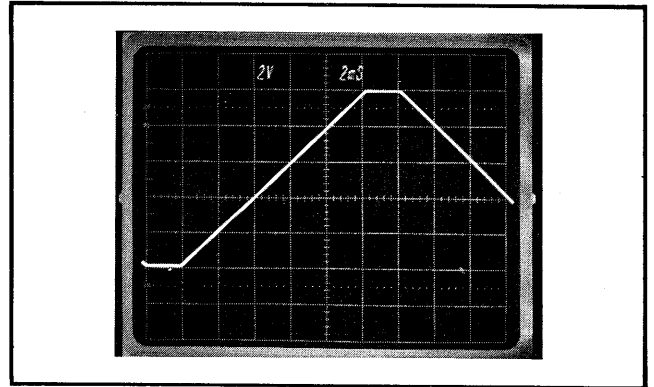

Figure 4-3. A2 Sweep Ramp, 10 ms Sweep
- e. Verify that the oscilloscope displays a 10 ms ± 2.0 ms ramp, as shown in Figure 4-3.